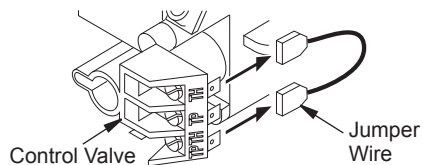

Figure 21 - Disconnecting Jumper Wire From Control Valve
- Disconnect jumper wire from control valve at TPTH and TH locations (see Figure 21).